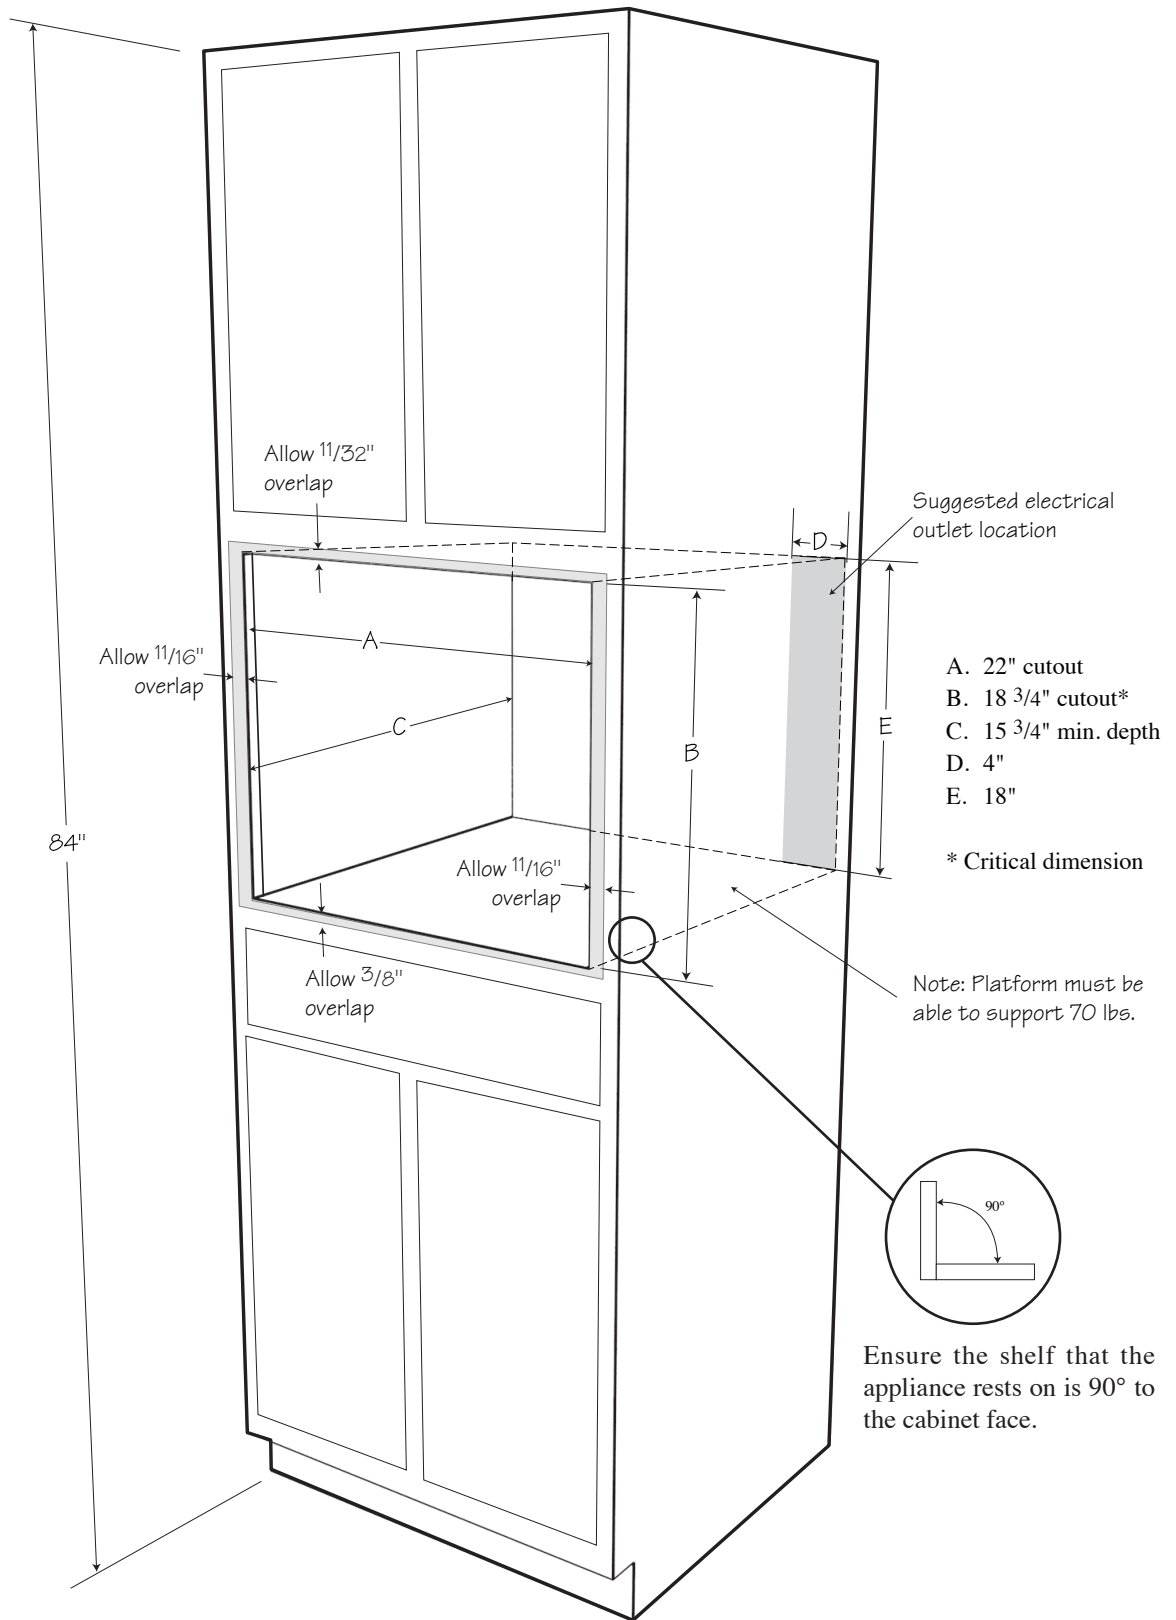

Figure 2
**For SAFETY CONSIDERATIONS do not install oven in any combustible cabinetry which is not in accord with the stated clearances and dimensions on page 3, Figure 2 or page 4, Figure 3.**